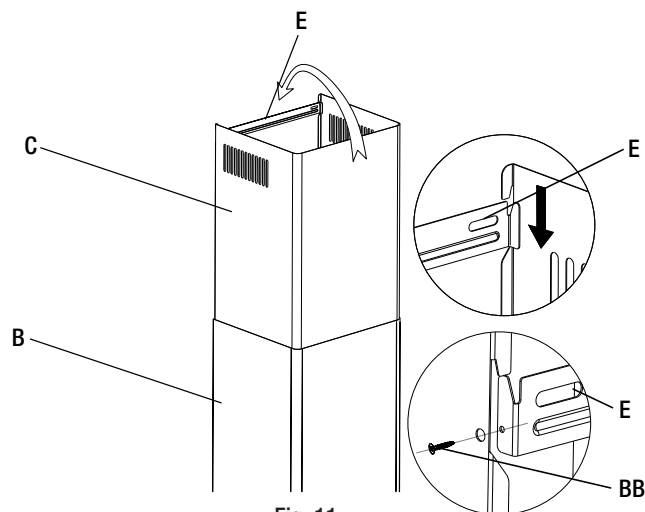

Fig. 11
- Slide the upper chimney (C) upwards and hang it on the upper chimney support bracket (E) as shown in figure 11.
- Secure the chimney extensions to the support brackets with tapping screws (BB) from both sides as shown in figure 11.